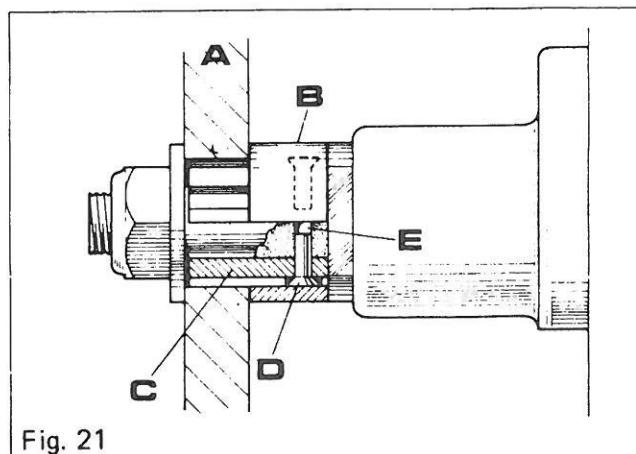

Fig. 21
The transmission is protected against severe overload by shearpins fitted into the gearbox and leadscrew drive shafts. See Fig. 21 and 22.
**Gearbox Drive Shaft (Fig. 21)** Isolate electrical supply and remove endguard. Remove driven gear (A) and spacer (B) exposing bush (C). Withdraw sheared pin heads from bush and remove bush. Push rest of shear pin through the locating hole (E) in drive shaft.